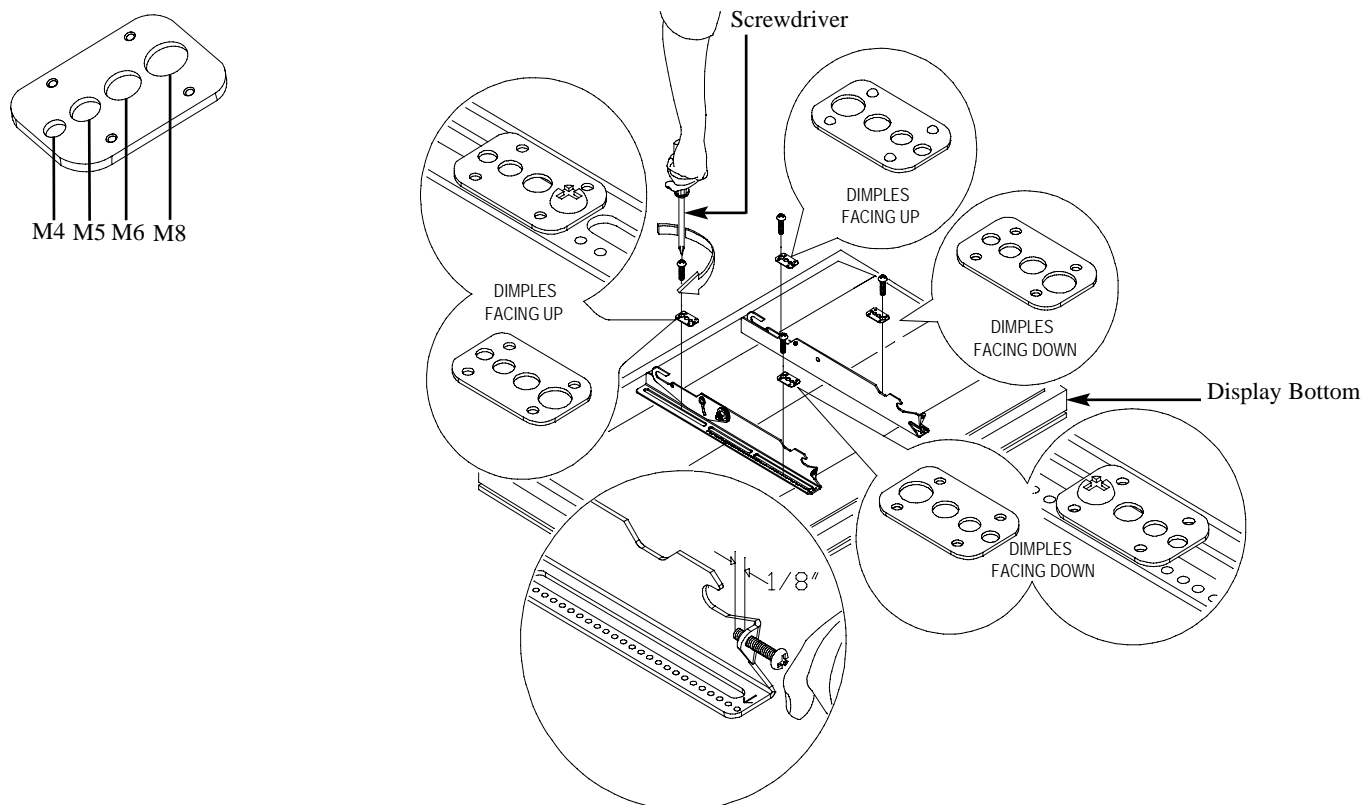

Figure 6
1. Once the mounting brackets are aligned secure the Griplate™ to the flat panel (Figure 6).